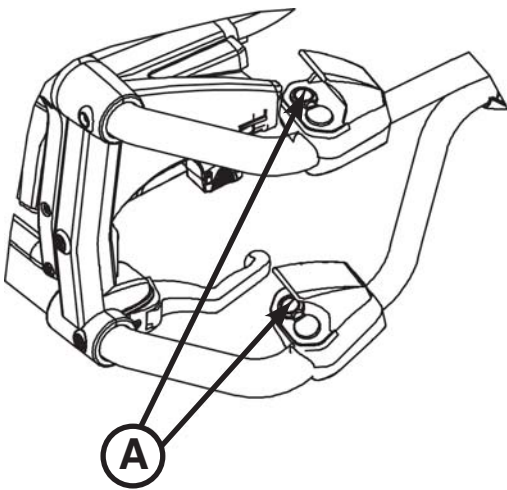

Figure 36: Retract Switches
To check the battery power level, depress **lightly** on the retract (–) switch (A) to activate the power indicator LED (B) as shown in Figures 36 and 37.